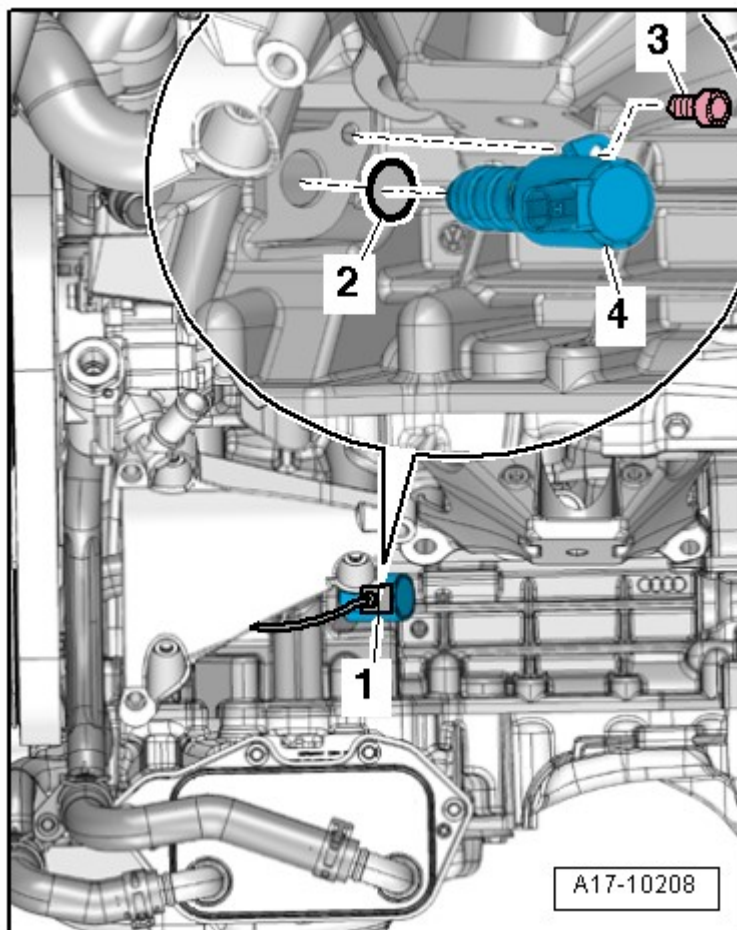

Fig. 6: Identifying Oil Pressure Regulation Valve -N428-
- With oil pressure regulation valve -N428-, refer to **Fig. 6**